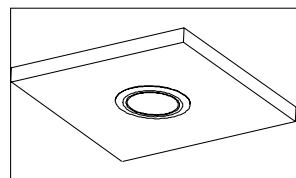

Figure 6
6. Turn the power back on. If the module doesn't illuminate within 5 seconds, turn power off, carefully remove the module and double check all wiring and replace. (Figure 6)